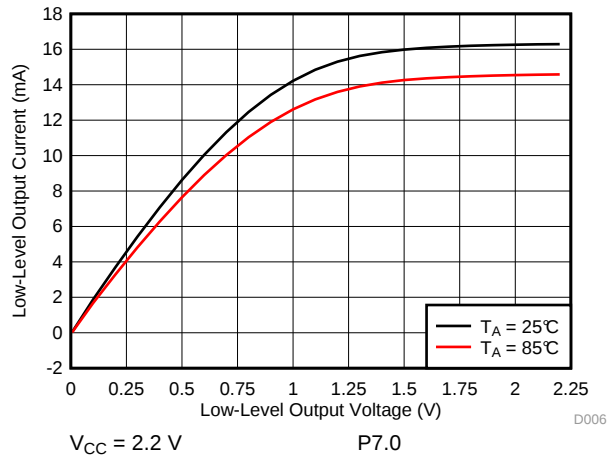
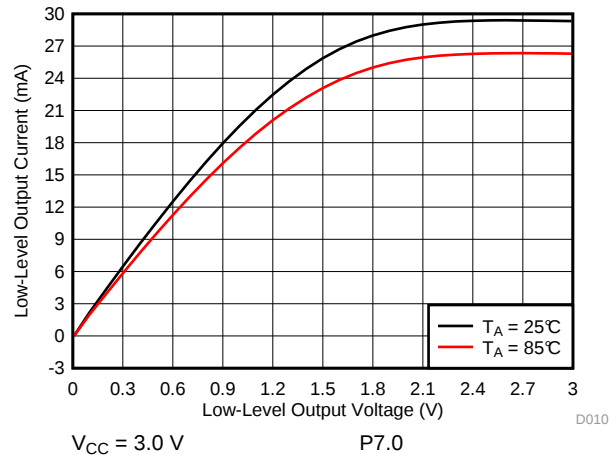

图 5-19. Low-Level Output Voltage vs Low-Level Output Current
图 5-20. Low-Level Output Voltage vs Low-Level Output Current
| V OL Low-level output voltage (see 图 5-19 and 图 5-20)                    | I (OLmax) = 1 mA (1)                                           | 2.2 V           | V SS        | V SS + 0.25 | V    |